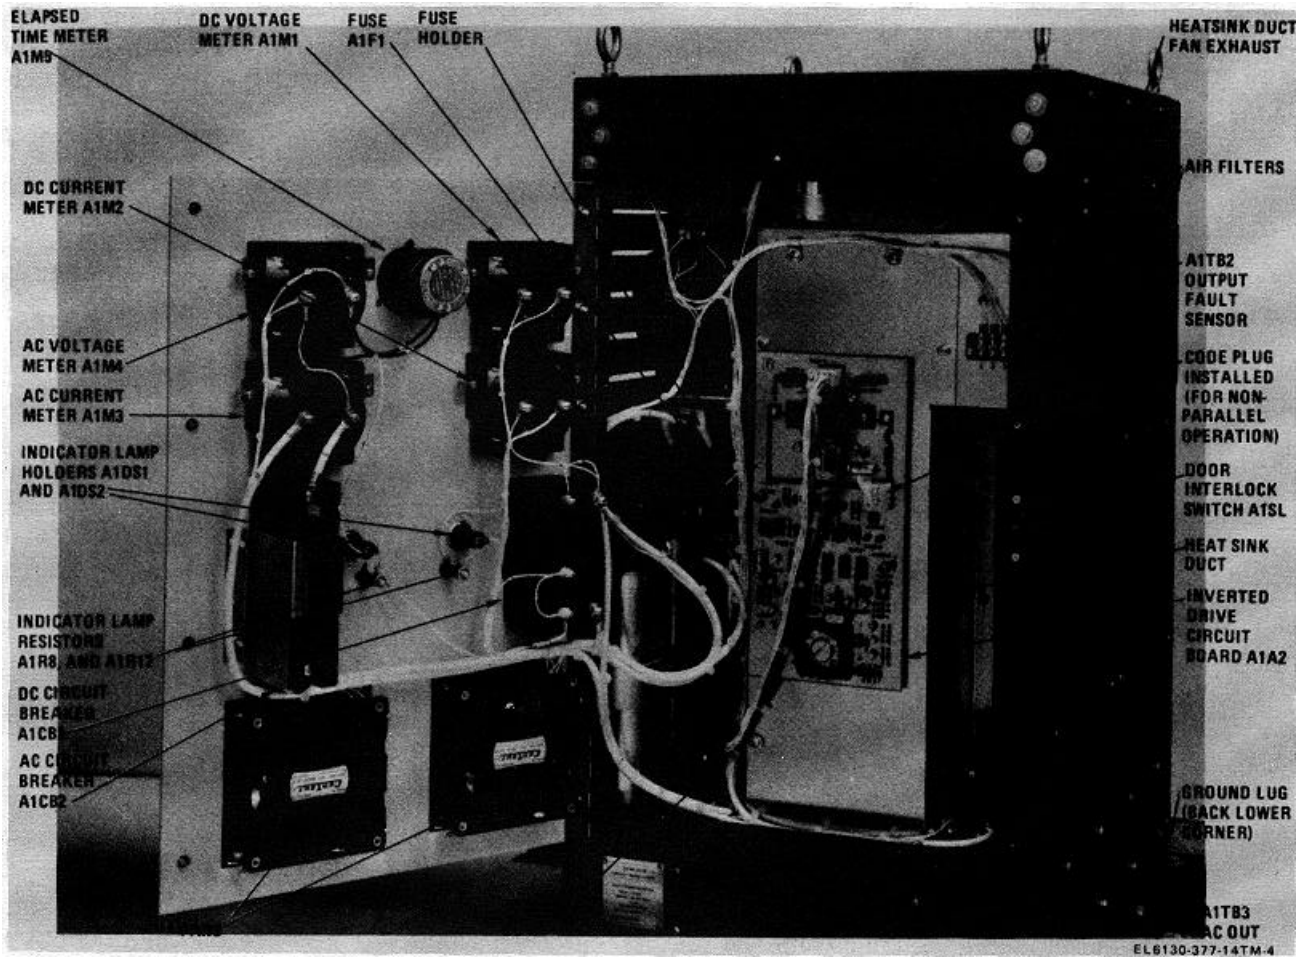
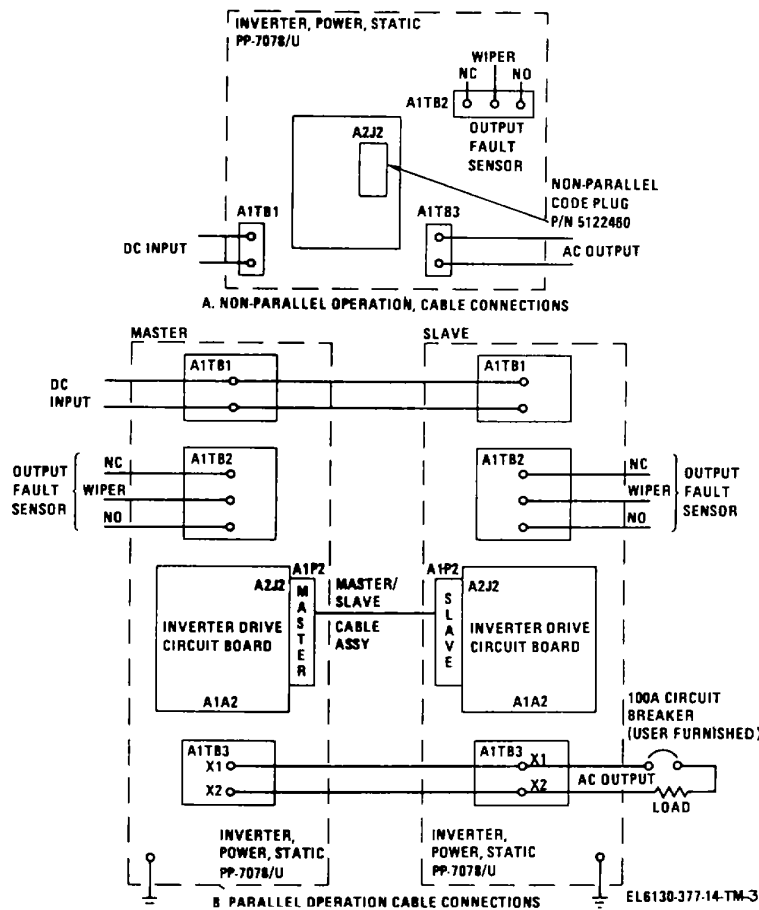

Figure 2-1. Front panel open, parts location, 1973 model.
Figure 2-2. Installation wiring diagram for single and dual operation.
- (1) Non-parallel connections (fig. 2-1 and A, fig. 2-2). Use AWG #3 wire for the dc input and AWG #6 for the output.
(c) Connect the dc input cables to A1TB1 and the ac output cables to A1TB3 (fig. 2-1).
(2) **Parallel connections** (fig. 2-1, and B, fig. 2-2). In this arrangement the user must provide the input and output cables, the inter-unit cables, and a 120 volt, 100 ampere single pole circuit breaker. The circuit breaker is placed between the ac output terminals of the slave inverter and the load. The wire size for the dc cables is AWG#3/0 and for the ac cables is AWG#1.
(c) Install the master/slave cable assembly (fig. 1-1) between the inverters and connect the MASTER plug into receptacle A1A2J2 of one inverter drive board and the SLAVE plug into the other inverter drive board receptacle A1A2J2 (B, fig. 2-2).
(d) Complete the remaining cabling for DC IN and AC OUT as shown in B, figure 2-2.
c. A remotely located indicator device can be connected to A1TB2 (fig. 2-1 and fig. 2-2). Terminal board A1TB2 is connected to relay A1K4 (fig. 5-2) whose contacts are capable of operating at 2 amperes
b. Parallel Operation. If a load greater than 50 amperes (5 KVA) is anticipated, two inverters are to be connected in parallel to provide the necessary power. A Master/Slave cable assembly is provided to connect the two units in parallel as shown in detail "B" of figure 2-2. In this mode of operation the inverter to which the MASTER plug of the cable assembly is connected becomes the controlling or master inverter and the unit which receives the SLAVE plug becomes the slave inverter. The 100 amp circuit breaker (user furnished) should be placed in the AC OUT lead as shown in B, figure 2-2, for best operation.